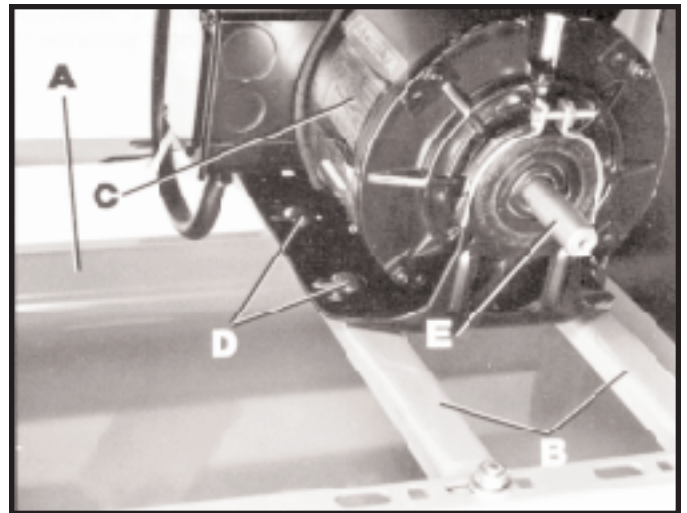

Fig. 11
1. To make the motor assembly easier, turn stand (A) Fig. 11, on its side with two horizontal bars (B) down as shown.
2. Position motor (C) Fig. 11, on two horizontal support bars (B) as shown, and fasten with four 3/4" long carriage bolts, two of which are shown at (D), and four flanged nuts. IMPORTANT: MAKE CERTAIN MOTOR SHAFT (E) IS ON THE SAME SIDE OF THE STAND AS THE LARGE OPENING IN THE TOP OF THE STAND BEFORE TIGHTENING CARRIAGE BOLTS (D). Further motor alignment will be necessary after band saw is fastened to stand.